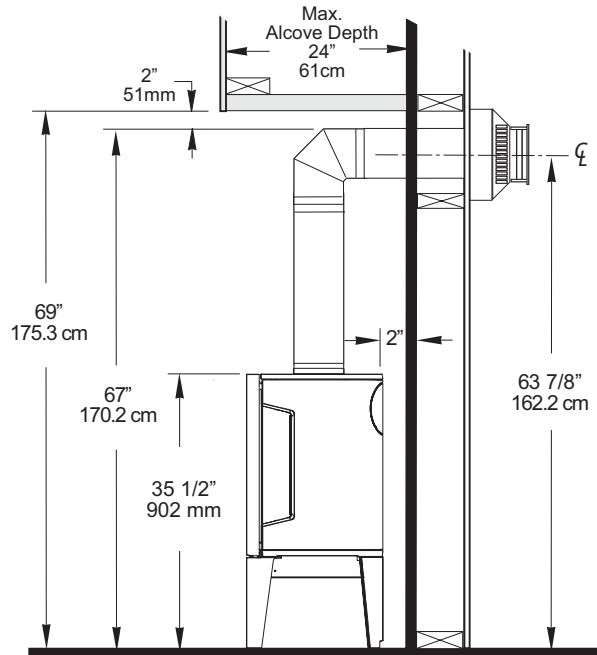

Figure 6.7. Minimum vent required for horizontal termination.
- Any horizontally-terminated vent run must include a minimum 24" (61 cm) vertical rise. See figs. 6.7, 6.8, 6.9.